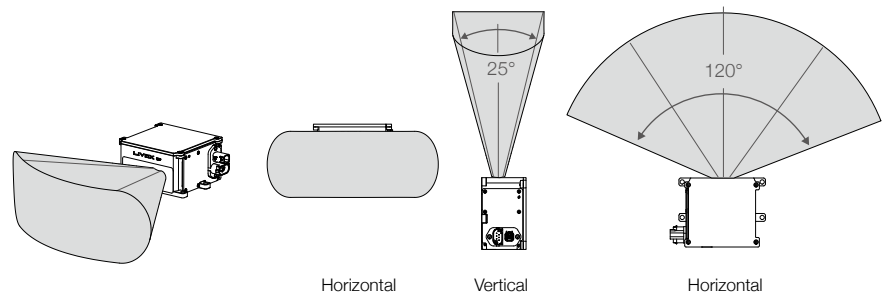

Figure 3.1.1 Effective FOV of the HAP (T1)
- 3. When mounting the HAP (T1), the field of view must not be blocked by an object, including glass. Refer to Figure 3.1.1.